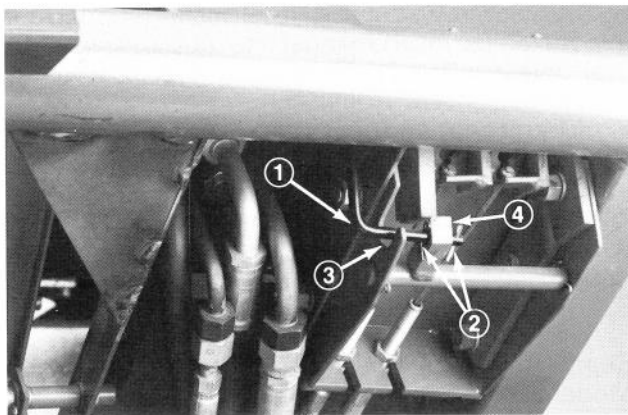

Figure 2
3. Secure valve to bracket with (4) locknuts (5/16-24) and (4) flatwashers (3/8 I.D. x 7/8 O.D.).
5. Install cotter pin (3/32 x 1/2 in. — 2.4 x 13 mm) through hole at top of parking brake rod. Install another cotter pin (3/32 x 1/2 in. — 2.4 x 13 mm) through inside hole at L-shaped end of brake rod (Fig. 2).
7. Slide top of rod up the steering tower and bottom of rod between cutout in brake mount and through hole in parking brake latch. Secure with cotter pin (Fig. 2).